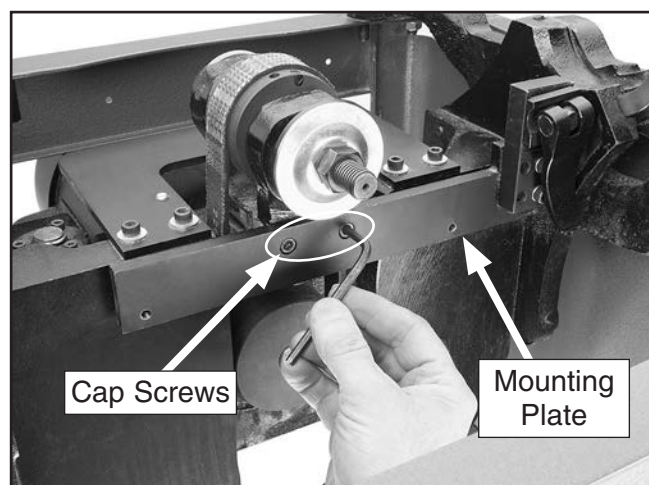

Figure 129. Removing mounting plate.
8. Remove the cap screws that secure the mounting plate shown in **Figure 129**, then remove the plate.